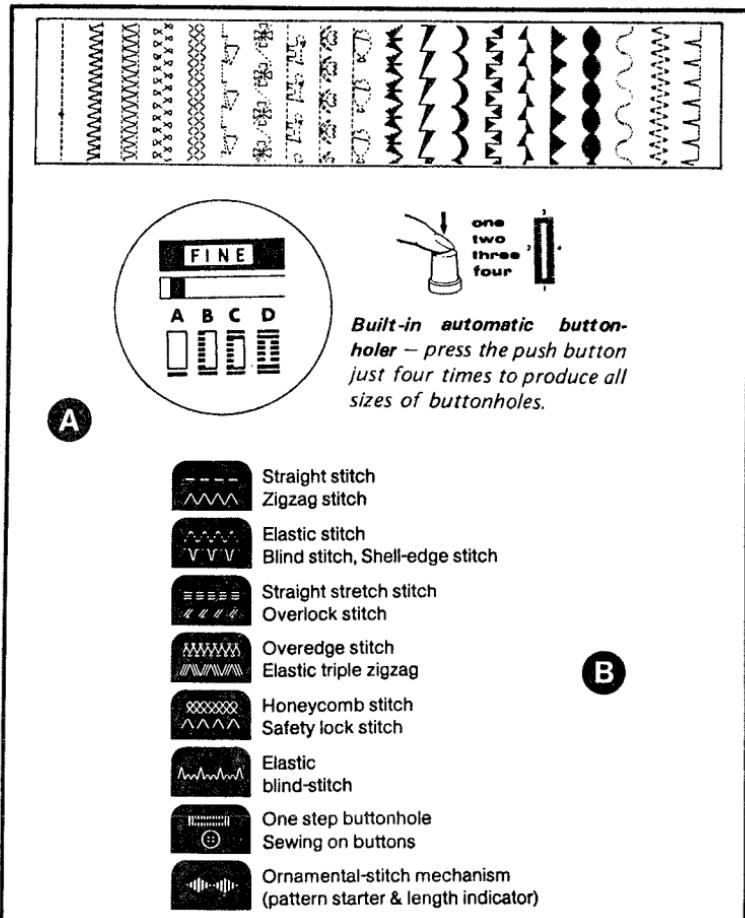

Fig. 2-2. The decorative stitches of A are possible on the Brother Model 701. The decorative stitches of B are possible on the Pfaff 1222-E, Electronic.
- Sewing a variety of decorative stitching (Fig. 2-2), in the case of the zig-zag machine, through a range of machine speeds from low to high. Also ask to be shown the effects on the appearance of the stitching caused by changing the *needle position* (left, center and right) and the *stitch width*.